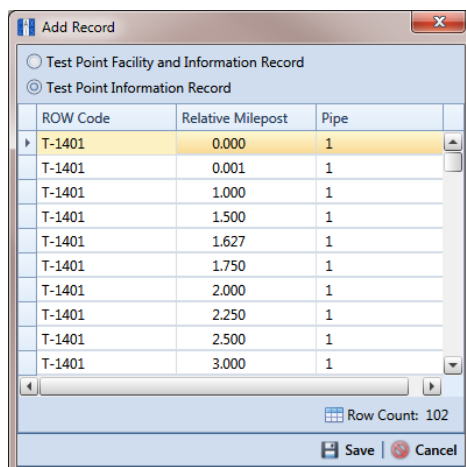

Figure 7-6. Add Record
- 6 Click **Add** to open the *Add Record* dialog box (Figure 7-6). Then continue with one of the following steps:
- a Click the option **Test Point Information Record**. Then select a facility in the list of facilities in the *Add Record* dialog box. For example, the facility at *Milepost 0.000* is selected in the previous figure (Figure 7-6, page 194).